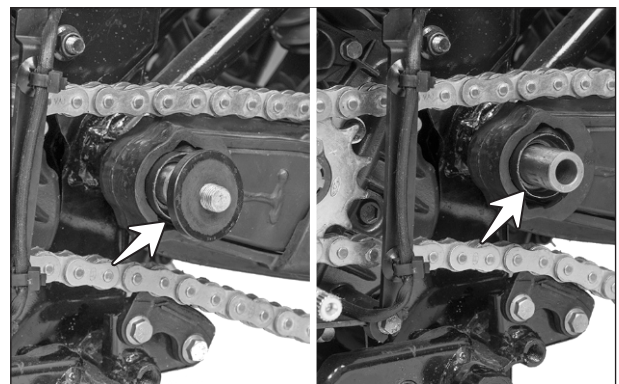

Fig. 2.130
- Now, take out the dust seal swinging arm and sleeve swing arm from the LH side of the swing arm assembly. (Fig. 2.130)
- Support the wheel as shown in figure using a fixture (A) and an axle. (Fig. 2.130)